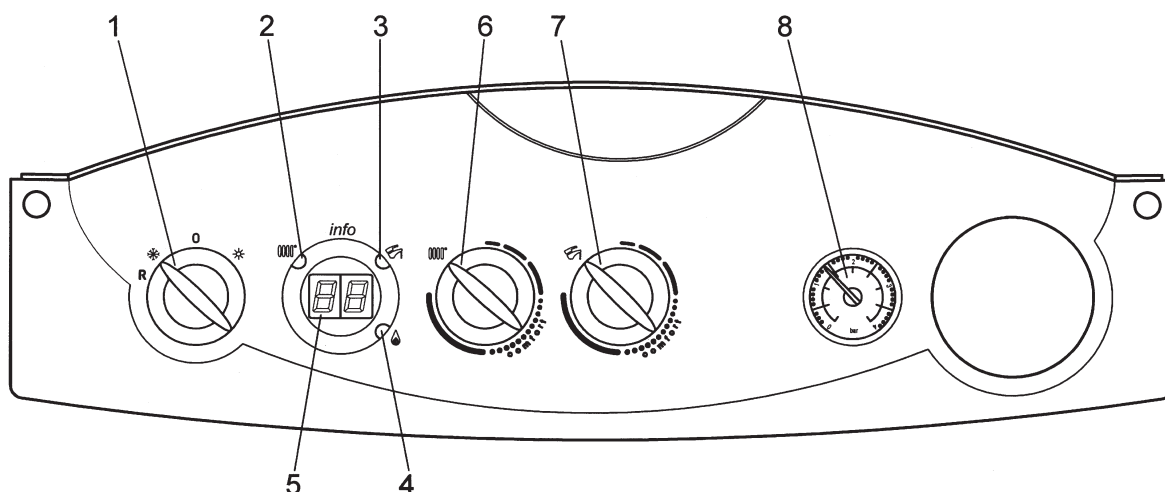

Fig. 30
To permit the boiler to handle requests from individual zones, turn the Summer/Winter selector (1 - figure 30) on the boiler's front panel to Winter (❄️) position.
Set the desired temperature with knob 6, figure 30 and 24, directly on the boiler control panel.
Use the central heating temperature control knob (6 - figure 30 and 24) on the boiler's control panel to set central heating out- put temperature to the various zones.
In “INFO” mode, the display (5 - figure 30, section 12.3) alternates between the message “A0” and the DHW temperature about every 5 seconds (figure 32).
If the QAA73 is connected to the boiler, the corresponding LEDs (2 or 3, Figure 30) flash when a request for central heating or domestic hot water is received.
8. The safety shutoff valve device must be tested. To test this device, close the gas cock and verify that the main PCB tries to relight the gas boiler three times. After the third attempt to relight the boiler, the display carries out the error code E133. To reset the boiler, turn selector 1 (figure 30) to “R” for at least 1 second (see section 3.3 of the user manual).